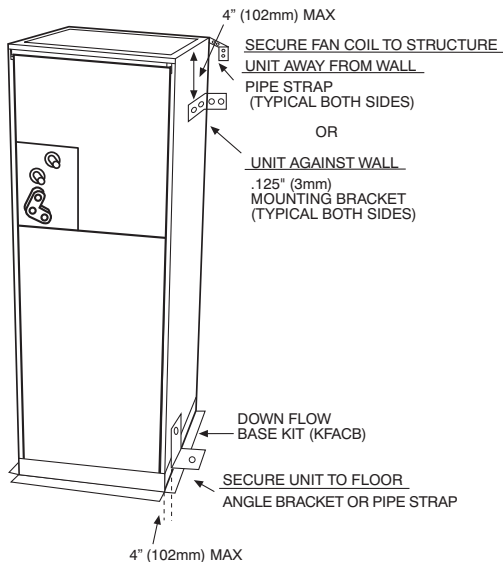

Fig. 8 - A-Coil
- b. If fan coil is against wall, secure fan coil to wall stud using 1/8-in (3 mm) thick right-angle brackets. Attach brackets to fan coil using no. 10 self-tapping screws and to wall stud using 5/16-in. lag screws. (See Fig. 8.)